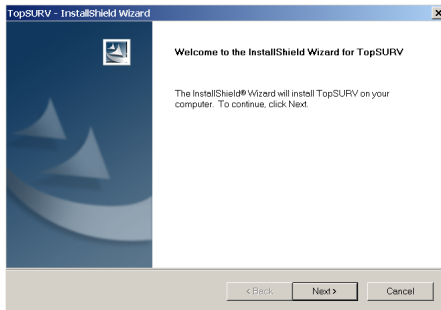

Figure 1-1. Welcome
1. Run TopSURVSetup.exe on your computer. The **Welcome** screen displays (Figure 1-1).